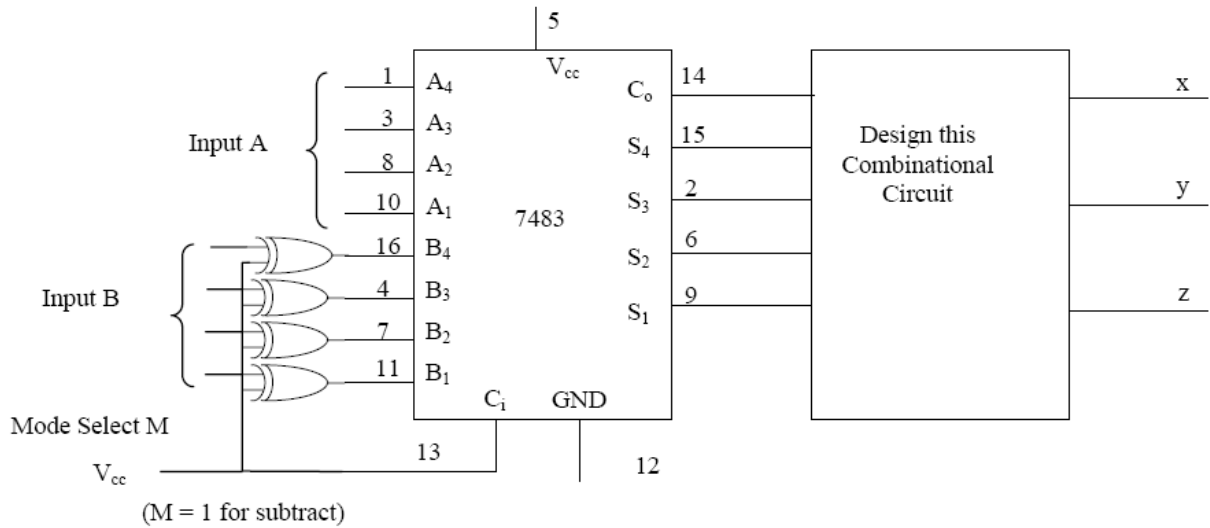

Fig.4 A magnitude comparator using a subtractor
f) A magnitude comparator can be constructed by using a subtractor as in Fig 2. and an additional combinational circuit. This is done with a combinational circuit which has 5 inputs  $S_1, S_2, S_3, S_4$ , and  $C_o$ , and three outputs X, Y, Z see Fig.4